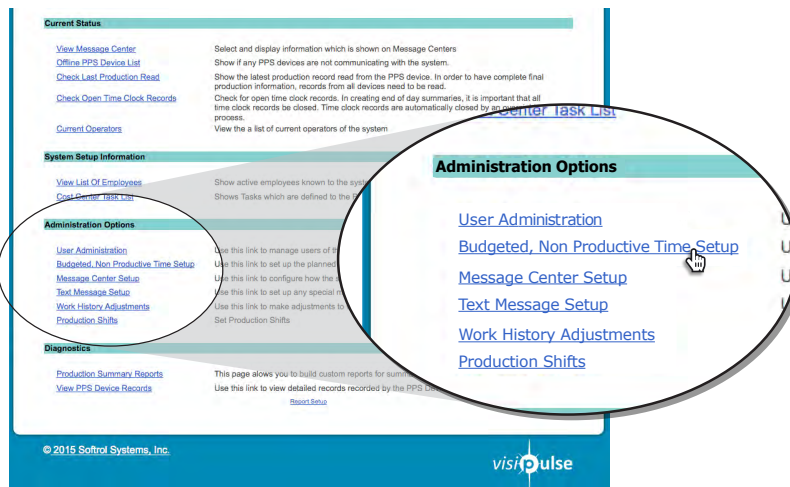

Figure 60. Administration Options.
3. Locate the heading for **Administrator Options** (see Figure 60).